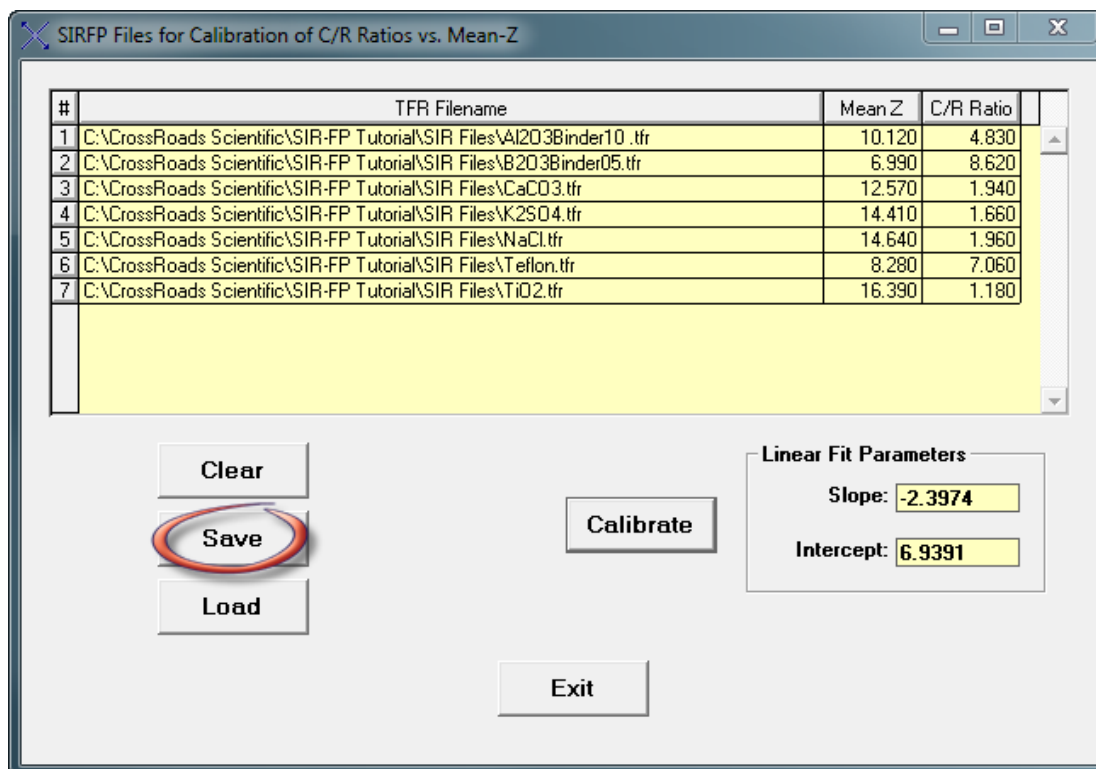

Figure 17. Saving the SIR-FP Calibration file. The SIR-FP calibration is saved as an \*.sir file using the “Save” button.
12. Click on the “Exit” button in the least-squares plot above (Fig. 16) and then click on the “**Save**” button (Fig. 17 below) to save the full SIR-FP calibration as an \*.sir file (i.e. “Tutorial.sir”). Then click on the “Exit” button.